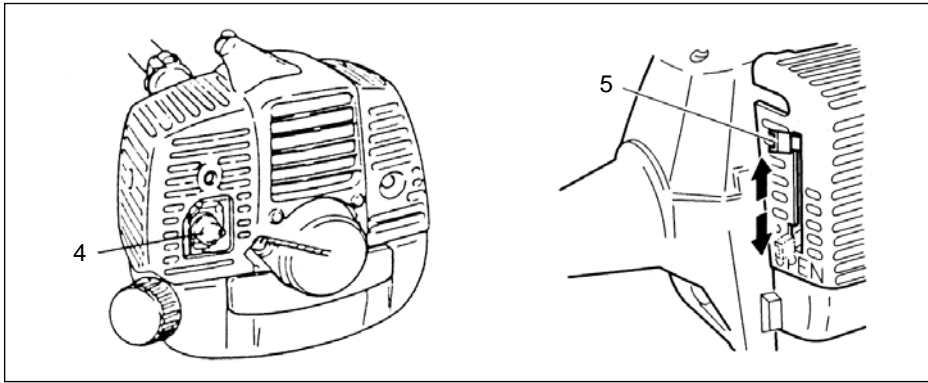

Fig.2-2C
- *Push priming bulb (4) several times so that fuel flows through the bulb or return pipe. (If so equipped)(Fig. 2-2C, 3)
2. With the safety trigger (2) pressed (if so equipped), pull throttle trigger and push throttle lock (3), then slowly release the throttle trigger first, then the safety trigger. This will lock the throttle in starting position.
3. Set choke lever to CLOSED position (5). (Fig. 2-2C, 3)